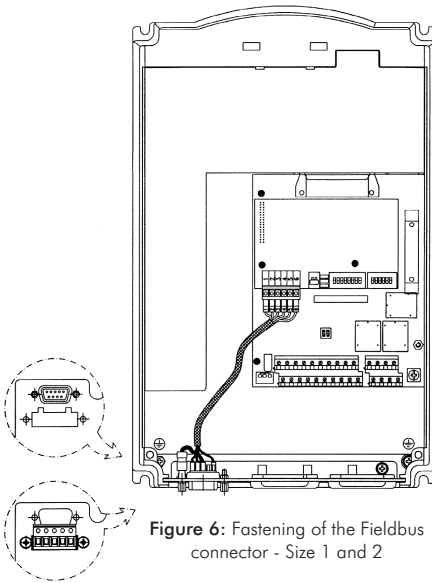

Figure 6: Fastening of the Fieldbus connector - Size 1 and 2
- Step 1** Fix the Fieldbus connector to the inverter frame by using the 150 mm (5.9 in) cable (figure 6);